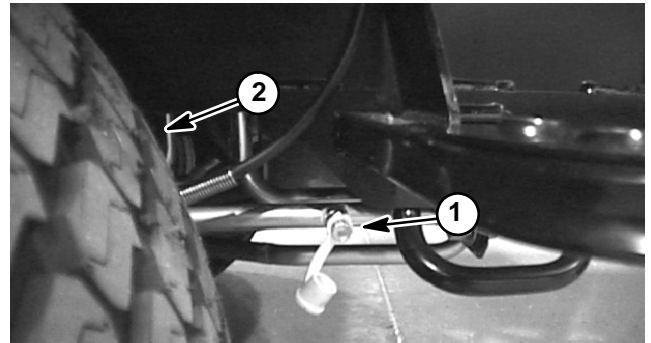

Figure 22
3. Connect a 10,000 PSI (700 bar) gauge to traction circuit test port for function to be checked (Forward or Reverse: Fig. 22 or 23).